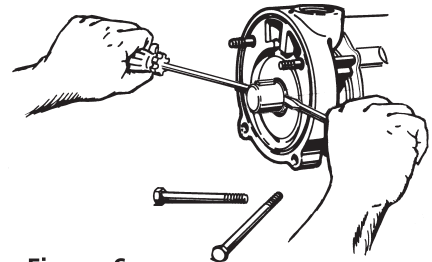

Figure 6
- a. Holding the screwdrivers at approximately 3 o'clock and 9 o'clock, push the handles toward the motor body, using the motor bracket for leverage. (refer to Figure 6) This procedure usually does not require excessive force. Care should be taken not to damage the impeller driver or motor shaft.
6. Remove the shaft sleeve (Ref. No. 9). The sleeve is a keyed fit and is removed using two large screwdrivers (refer to Figure 6).